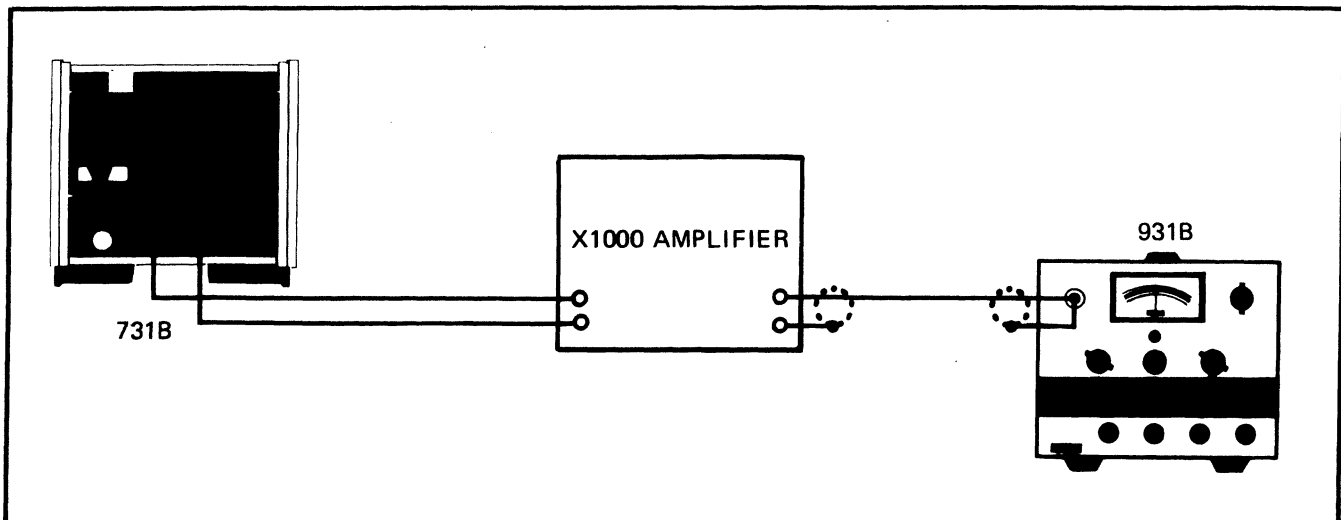

Figure 4-3. EQUIPMENT CONNECTIONS FOR 1 HZ TO 1 MHZ OUTPUT NOISE TEST.
- a. Connect equipment as shown in Figure 4-3.